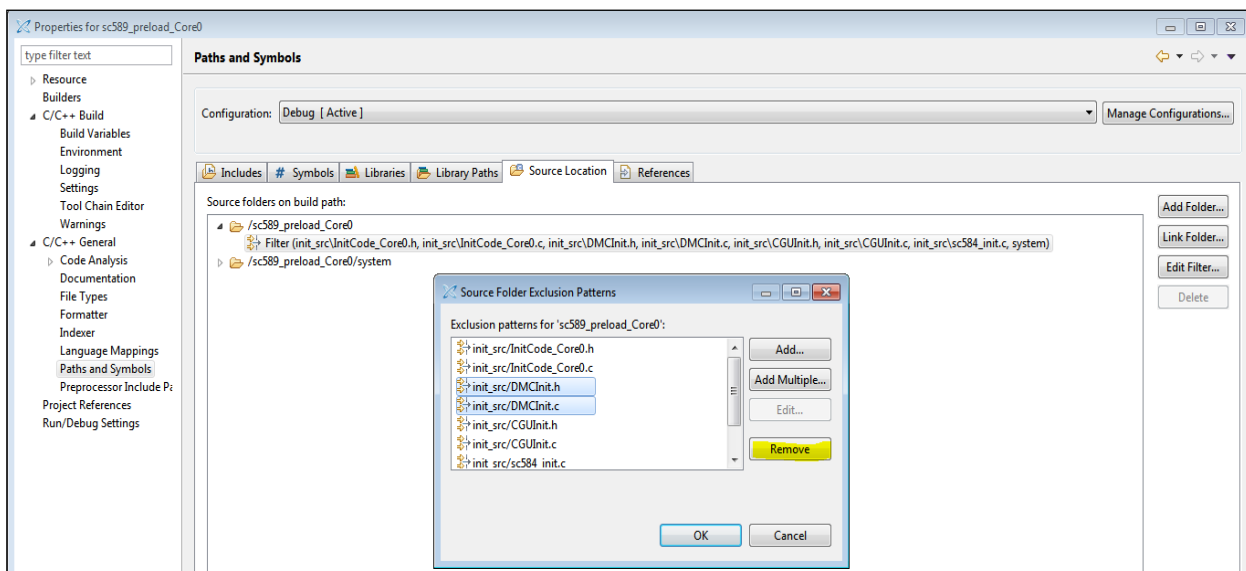

Figure 7. Modifying Project Options for Building Custom ADSP-SC589 Preload Code
4. In the project properties window, remove the `DMCInit.c` and `DMCInit.h` files from the filter, as shown in Figure 7: